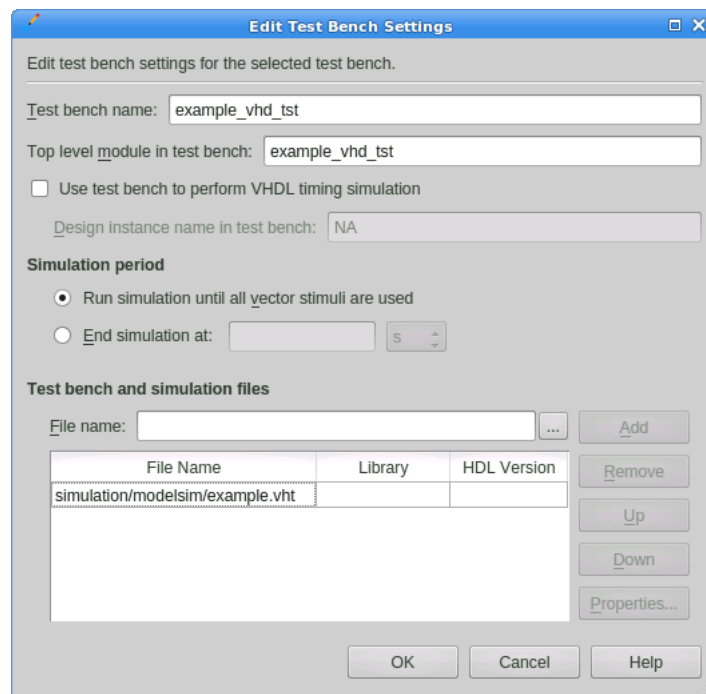

Figure 14: Testbench Settings window.
11. Next is adding the testbench to your project so that the simulator will compile it and test your device appropriately. Click **Assignments->Settings** and select **Simulation**. Select the **Compile test bench** option and click the **Test Benches** button. Now click **New** and you will be presented with a window asking for the specific testbench information. Fill it out as shown in figure 14, making sure to add your testbench file. Press **OK** on all of the windows.